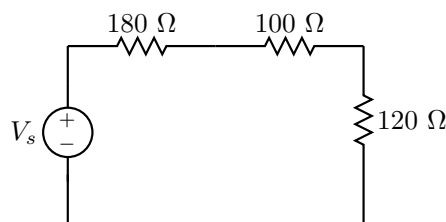

Figure 1: A simple circuit for DC voltage and current measurements
With the circuit setup in Figure 1, follow the procedures as below to complete this task.
- i. Set up a circuit as shown in Figure 1 on the breadboard provided. Ensure that you have the correct resistors according to the colour reading. A guidance of the colour code is shown in Appendix A.4.